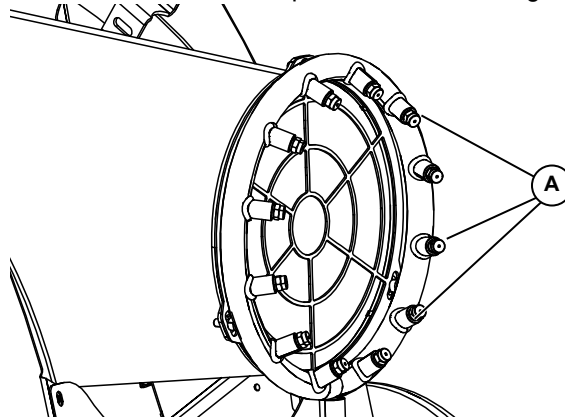

Figure 4-1. Cleaning the Unit
See Figure 4-1. After each use, rinse nozzles (A) with an antilimestone solution to prevent nozzle fouling.
1. See **Figure 4-1**. Remove nozzles (A) from blower.
See Figure 4-1. Lubricate transport support (A) and thrust bearing (B) on a semiannual basis.